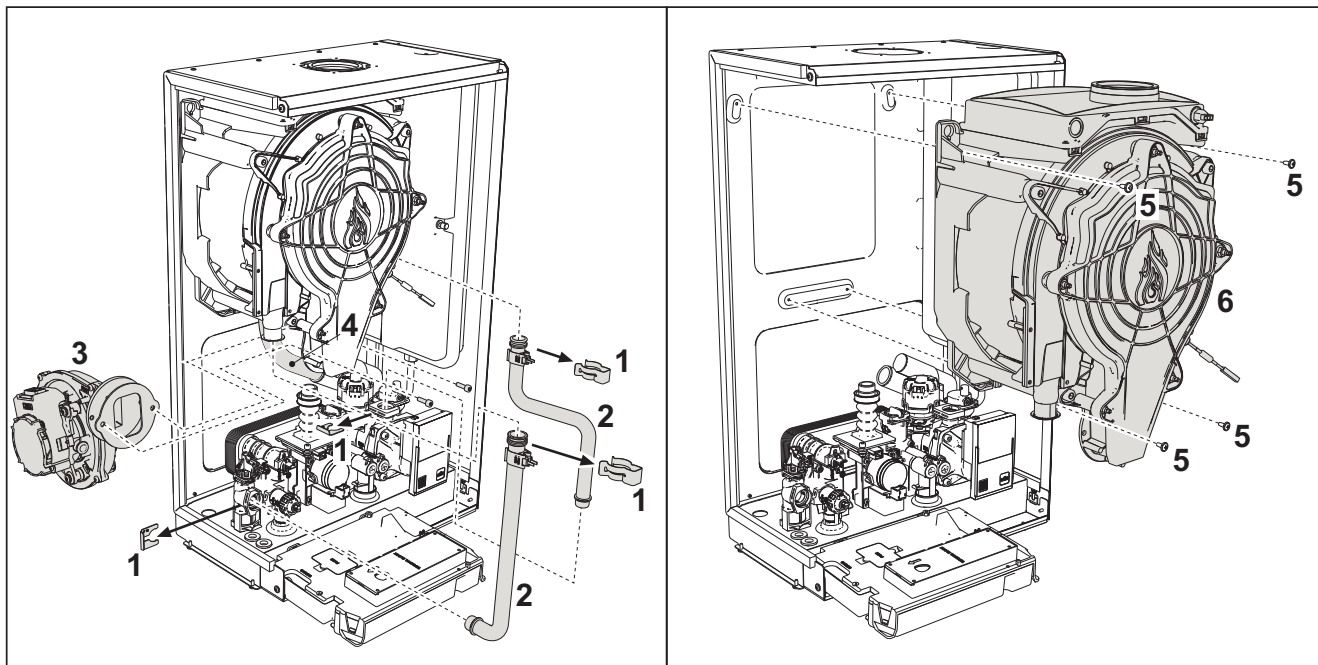

fig. 40- Main exchanger
- Remove the 2 top **screws "5"** securing the exchanger to the frame (fig. 40)
- Loosen the 2 bottom **screws "5"** securing the exchanger to the frame (fig. 40)